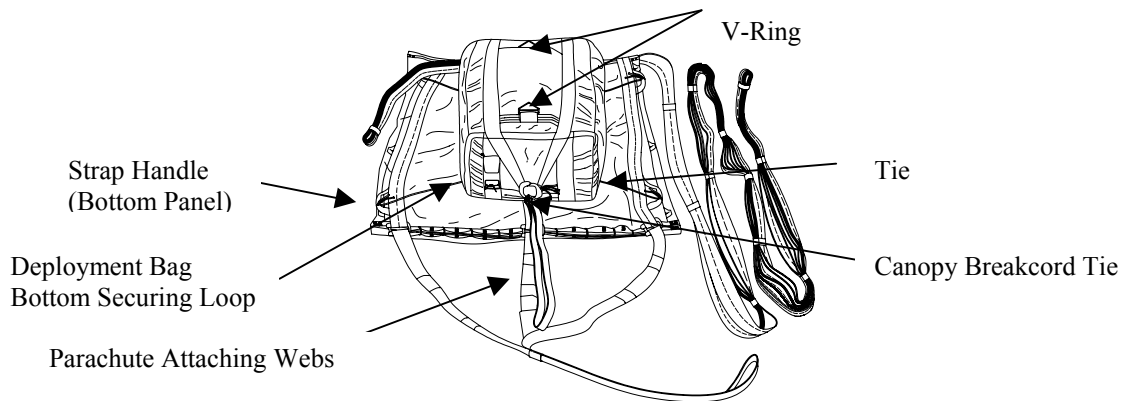

Figure 14. 22' Extraction Parachute Secured to Extraction Line Bag.
- c. Route the type I, ¼-inch cotton webbing one turn double, through canopy bridle loop, around deployment bag bridle straps and through both connector link. Secure tie with a surgeon's knot, and locking knot (figure 14).